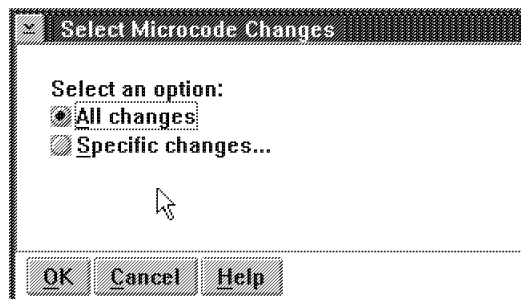

Figure 3-6. Select Microcode Changes
- b. ____ Select "**All Changes**" (see Figure 3-6) to display all the cover letters, then click on "**OK**".